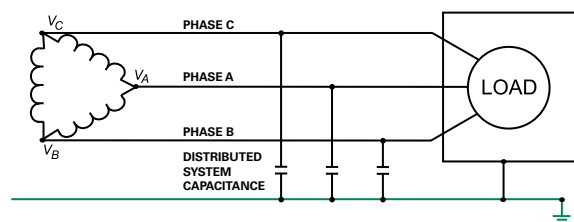

FIGURE 4
Ungrounded ac systems, such as shown in *Figure 4*, were used where continuity of power was critical. For example, chemical plants or refineries involving processes that cannot be interrupted without extensive dollar or product loss may have an ungrounded system. However, experience has proven that these systems are problematic and are being replaced with resistance grounded systems. Two major problems with ungrounded systems are transient overvoltages and difficulty locating ground faults.
- An ungrounded system has no point in the system that is intentionally grounded (other than the normal bonding which is always present to connect the non-current-carrying metal parts to ground). Grounding occurs only through system capacitance to ground (as shown in *Figure 4*).